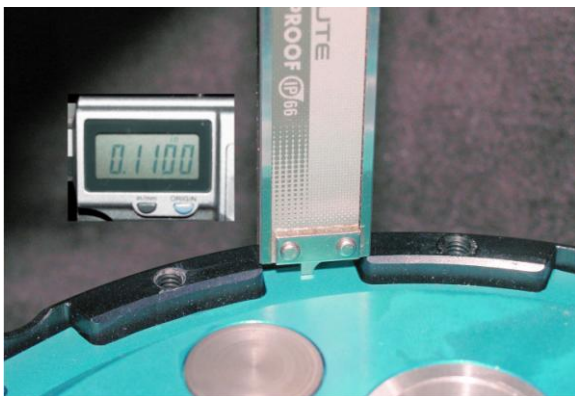
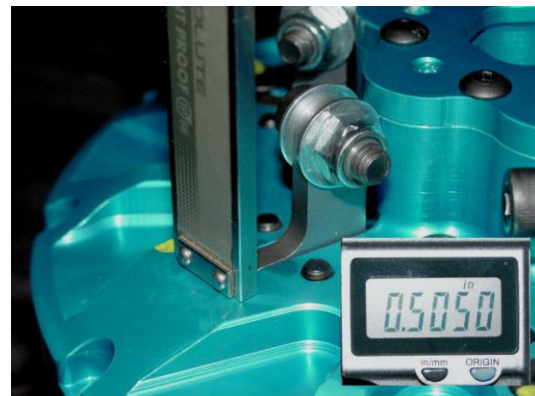

Fig. 1
Fig. 2
- C. Once the basket is in place, replace the hardened steel spacer that goes between the face of the clutch basket and the inner hub with the four (4) piece needle bearing spacer supplied with your unit. **Make sure the needle bearing has a thrust washer on both sides.** Install the modified stock hub. Tighten the locking nut to the factory specification. Check to make sure you have the correct end play on your basket after tightening. If you don't have .003 to .006" end play clearance, the inner hub will not rotate when the nut on the input shaft is tight. If the basket has too much end play, it could cause damage to the clutch or engine.
- E. Install the friction and metal plates the same way as with the stock procedure, **start with an OEM thick fiber**, then steel, then fiber, then steel, continue until you end with a fiber. The Kawasaki KZ1000 Gen II clutch has (7) steels (7 OEM steels 0.091") and (8) fibers (2 MTC fibers 0.118", and 6 OEM fibers 0.151") plates. The total clutch pack should be approximately 1.779". As of 12/17/12, clutch pack consists of (7) OEM Steels .091" thick, (4) MTC Fibers .118" thick, and (4) OEM fibers .151" thick, approximately 1.719" stack height.
- F. Insert the pressure plate on top of the last fiber. The height from the top of the tang, on the pressure plate to the top of the basket should be approximately 0.110" (See Fig. 1). This will give you an air gap below your arms to the buttons of 0.110".
- G. Place the hat assembly on the basket and tighten the twelve (12) allen head cap screws to secure it.
- H. The air gap between the arms and the pressure plate buttons can be measured using the thin bottom section of a caliper. Stick the caliper rod into the slot opening just behind the arm (See Fig. 2) until it hits the top of the button on the pressure plate. Take a height reading to the top of the Gen II hat, this reading should be between 0.490"-0.510". This gives an air gap of 0.100"-0.120". It is better to start with an air gap of 0.100" to compensate for clutch wear. This technique can be used to maintain the air gap, after repeated runs, without removing any part of the clutch.